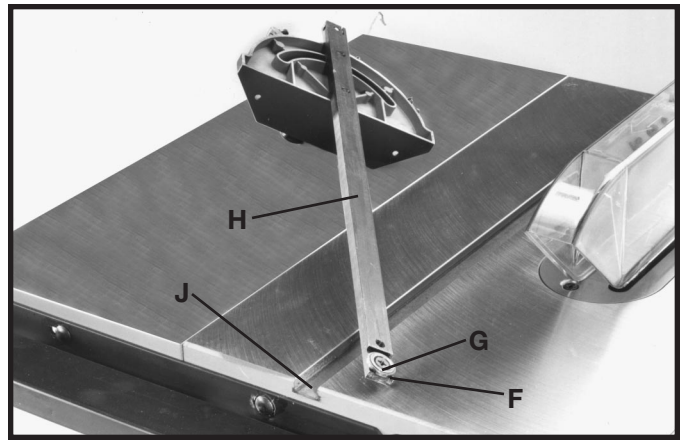
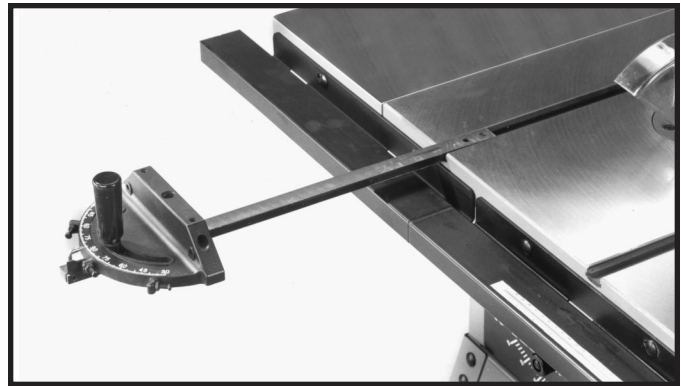

Fig. 50
Fig. 51
3. The miter gage is equipped with a special washer (F) Fig. 50, and a flat head screw (G) which are assembled to the bottom end of the miter gage bar (H). The special washer (F) rides in the T-slotted miter gage slot (J) and prevents the miter gage from falling when it is extended out beyond the front of the saw table, as shown in Fig. 51.